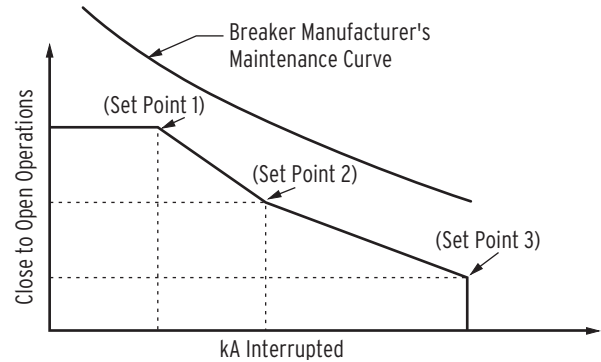

Figure 26 Breaker Contact Wear Curve and Settings
- Every time the breaker trips, the relay integrates interrupted current. When the result of this integration exceeds the threshold set by the breaker wear curve (Figure 26), the relay can alarm via an output contact or the optional front-panel display. With this information, you can schedule breaker maintenance in a timely, economical fashion.